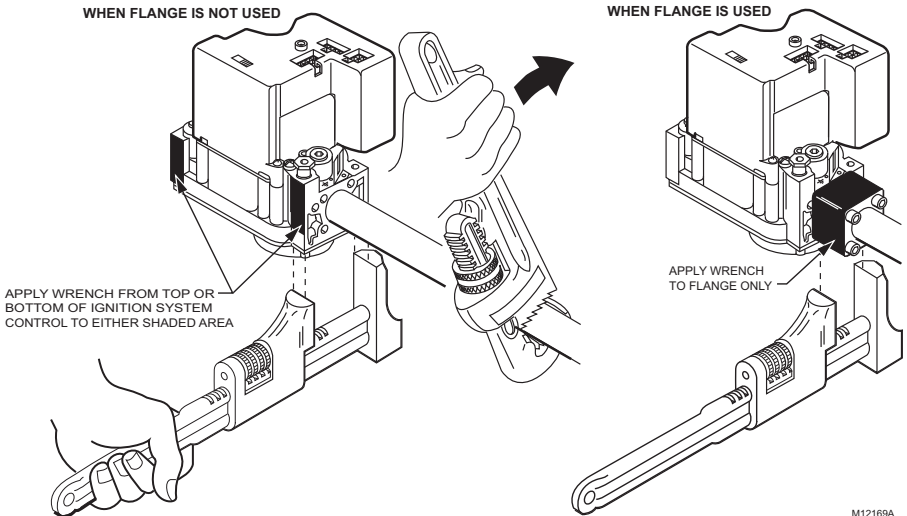

Fig. 4. Proper use of wrench on ignition system control with and without flanges.
Complete the instructions below for installing the piping, installing the control, and connecting the pilot tubing and wiring. Make sure the leak test you perform on the control after completing the installation includes leak testing the adapters and screws. If you use a wrench on the valve after the flanges are installed, use the wrench only on the flange, not on the control. See Fig. 4.
6. Connect the pipe to the ignition system control inlet and outlet. Use a wrench on the square ends of the ignition system control. If a flange is used, place the wrench on the flange rather than on the ignition system control. Refer to Fig. 4.